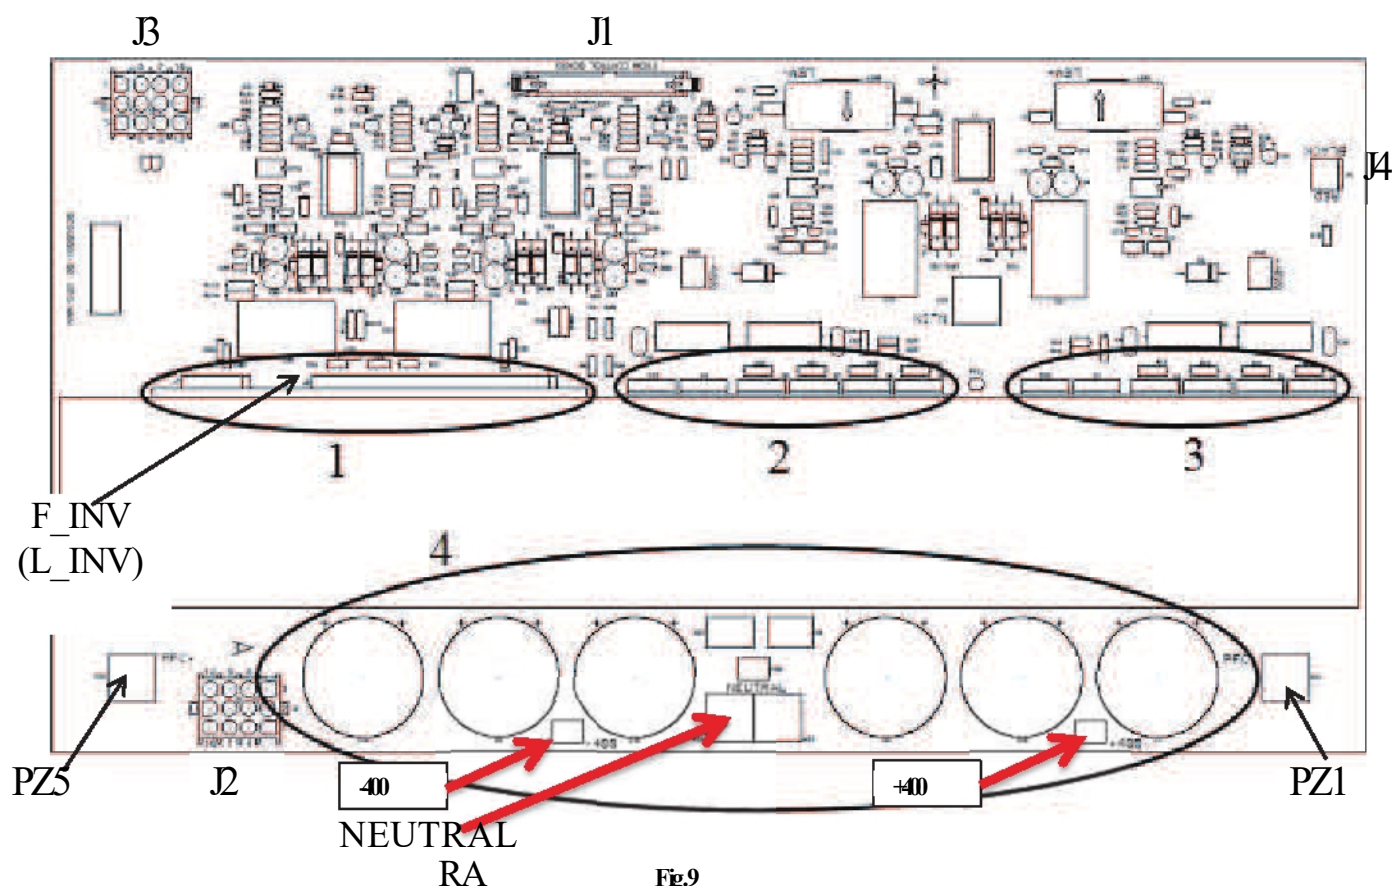

Fig.9
- 1) Disconnect the hanging wires from connectors J2 and J3 on the B0091 boards for all phases; see Fig. 9 and disconnect the cable from connector F\_INV or L\_INV based on the power assembly version).
- 2) using a multimeter set to ohmmeter, check that there are no short circuits between NEUTRAL - (+400) and NEUTRAL - (-400); see Fig. 9.